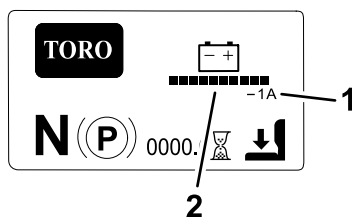

Figure 19
- **Main information screen (Figure 19):** shows current machine information while the key is in the ON position. This screen shows the battery-system charge level and the amperage.